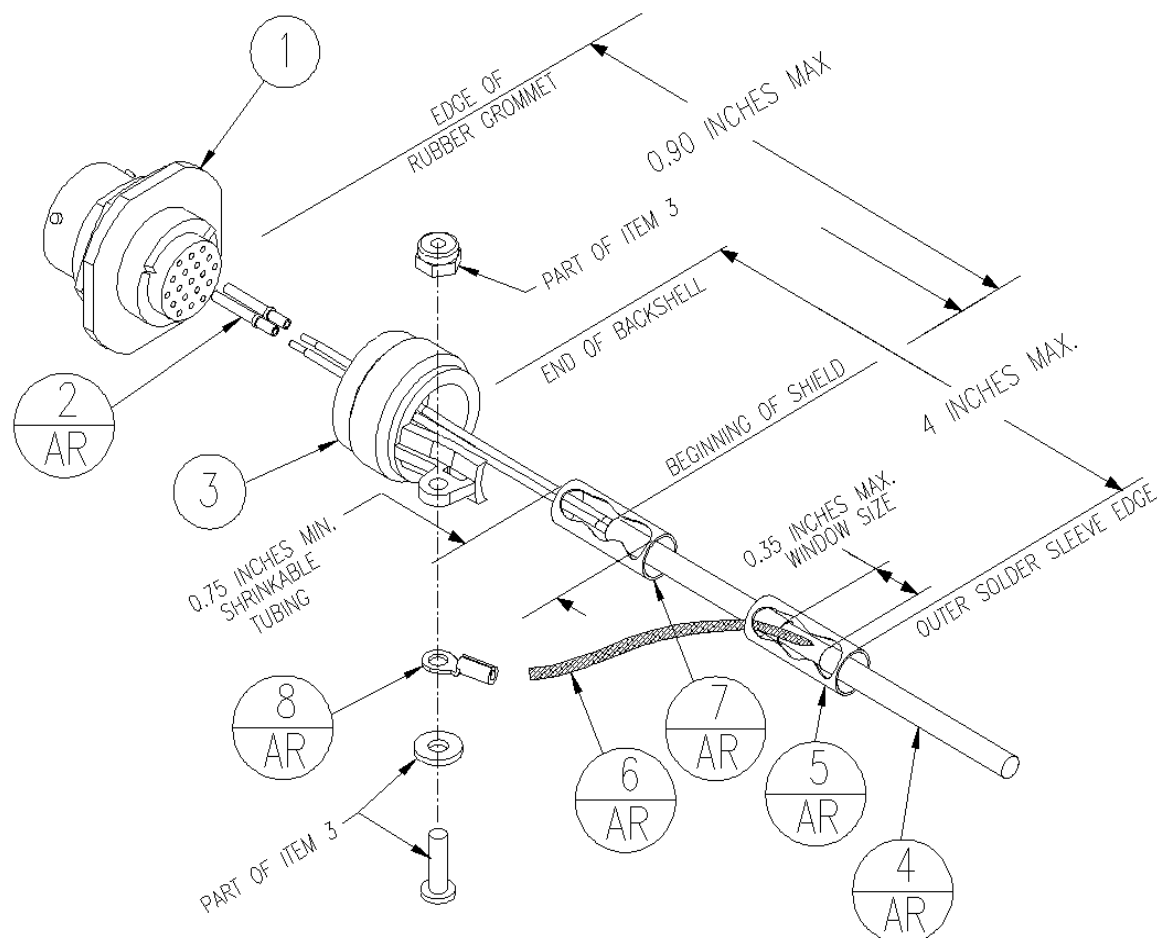

Figure B-15. Circular Connector Install (19 contact example)
Table B-9. Parts supplied for a Circular Connector Installation (Figure B-15)
Table B-10. Parts NOT supplied for a Circular Connector Installation (Figure B-15)
In Figure B-15, "AR" denotes quantity "As Required" for the particular installation.
6. Cut the flat braid (item 6) to a length that, with the addition of a ring terminal, will reach the grounding hole of the circular backshell (item 3) (Figure B-15). An appropriate amount of excess length without looping should be given to the flat braid (item 6) to allow it to freely move with the wire bundle.
5. Cut the flat braid (item 6) to a length that, with the addition of a ring terminal, will reach the grounding hole of the circular backshell (item 3) (Figure B-15). An appropriate amount of excess length without looping should be given to the flat braid (item 6) to allow it to freely move with the wire bundle.
6. Guidelines for terminating the newly cutoff flat braid(s) (item 6) with insulated ring terminals (item 9):
- The grounding hole on the circular backshell (item 3) may accommodate a max of 4 ring terminals (item 9).
- It is preferred that only two Flat Braid(s) (item 6) be terminated per ring terminal. Two flat braids per ring terminal will necessitate the use of a #6 ring terminal, 14-16 AWG (MS25036-107).
8. Terminate the ring terminals to the circular backshell (item 3) by placing items on the provided pan head screw in the following order: flat washer (provided with circular backshell), first ring terminal, second ring terminal, third ring terminal (if needed) before finally inserting the screw into the grounding hole on the circular backshell and securing with the provided locking nut. Do not violate the guidelines presented in step 7 regarding ring terminals.